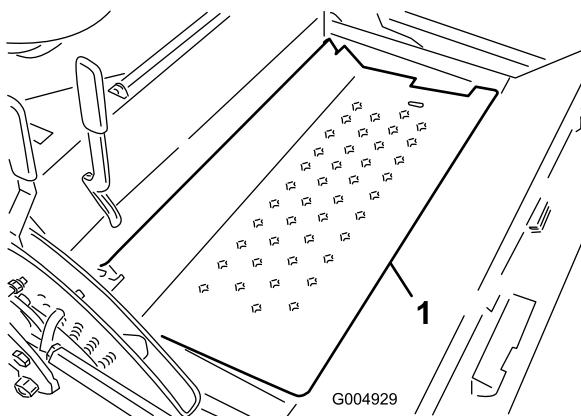

Figure 10
6. Pivot open the floor plate (Figure 10).